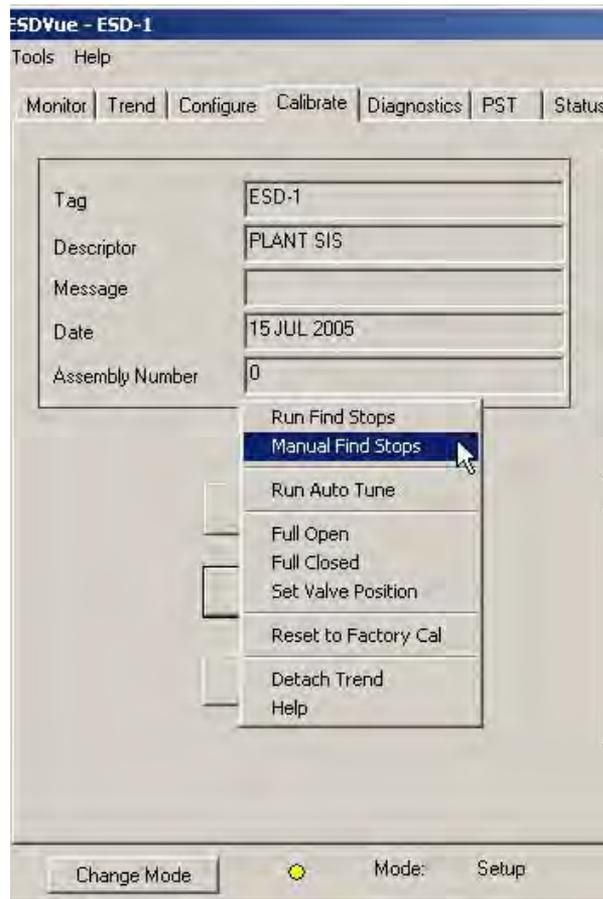

Figure 327 Selecting Manual Find Stops
1. Select **Manual Find Stops** (Figure 327).